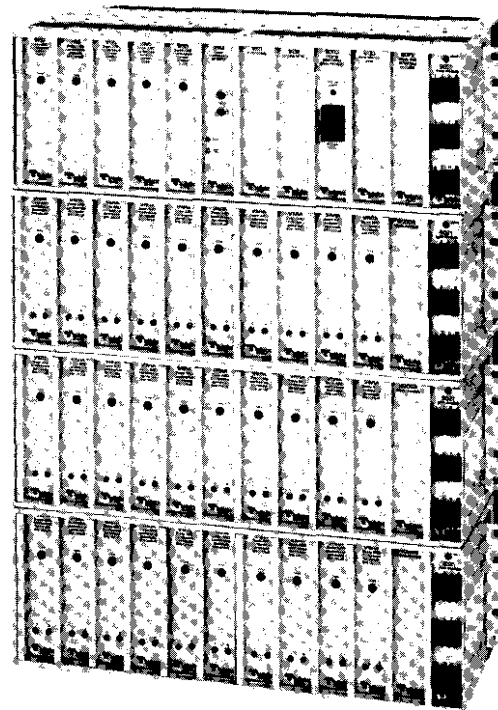

figure 1. 291R Conference/Alerting System
1.01 The Tellabs 291R Conference/Alerting System (figure 1) is a multistation ringdown telephone conference circuit designed primarily for use in local emergency reporting and alerting applications and in business conferencing applications. The 291R System provides simultaneous access to up to 30 PBX stations either from a dedicated telephone (i.e., a "master" station) or via two PBX extension numbers. Conferees are provided with emergency conference capability at their everyday business telephones with no disruption of normal telephone service except during a conference call. All PBX stations assigned to the conference network are signaled via a distinctive ringing format on conference calls. The 291R System may be used with any FCC Registered PBX system. Services provided by the 291R System are typically used by airport emergency crews, banks, stores, and factories with multiple PBX stations.